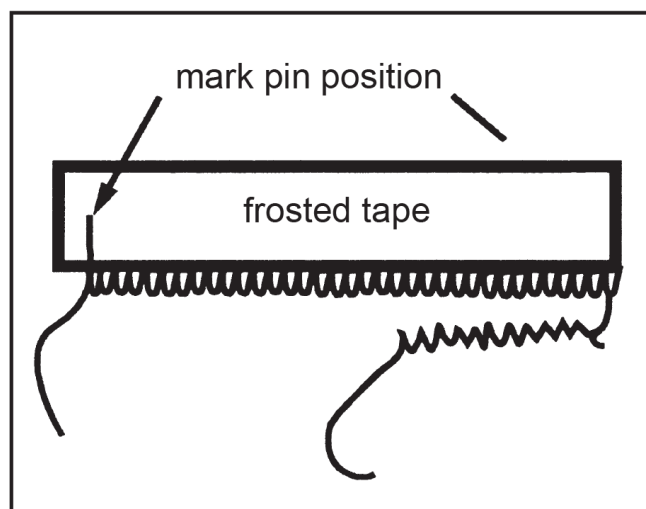

Figure 7. Transparent tape option.
- Use transparent tape to mark where to begin, end, and place the buttonhole (Figure 7).